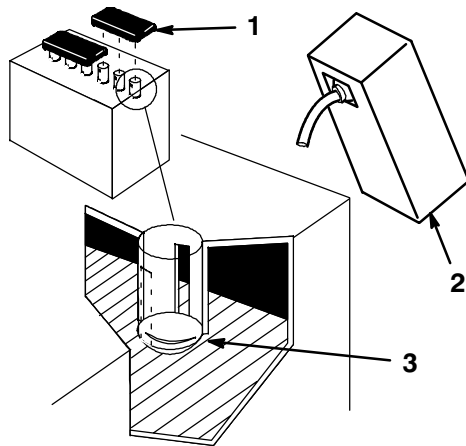

Figure 10
2. Remove the filler caps from the battery. Slowly pour electrolyte into each cell until the electrolyte level is up to the lower part of the tube (Fig. 10). Use an electrolyte with a specific gravity of 1.265.
5. Slowly pour electrolyte into each cell until the level is once again up to "UPPER" line on the battery case (Fig. 10), then install the filler caps.